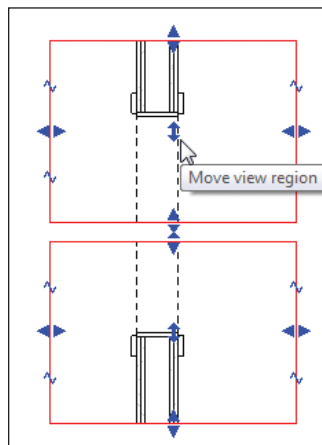

FIGURE 3.57 Sliding the view regions tighter together
5. Within the cropped regions, you will see blue move icons. If you do not see blue icons as shown in Figure 3.57, you need to select the crop region again.